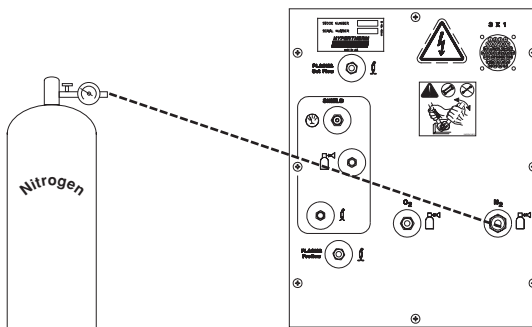

Figure 7-7 Nitrogen Supply to N₂ Input of Gas Console
6. Connect the nitrogen supply hose to the N₂ connection of the gas console. See Figure 7-7.